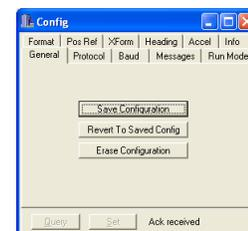

Figure 7. General tab.
- Select the "General" tab and press the "Save Configuration" button to store the values as part of the configuration profile. These values will be saved even during a loss of power to the unit (Figure 7).